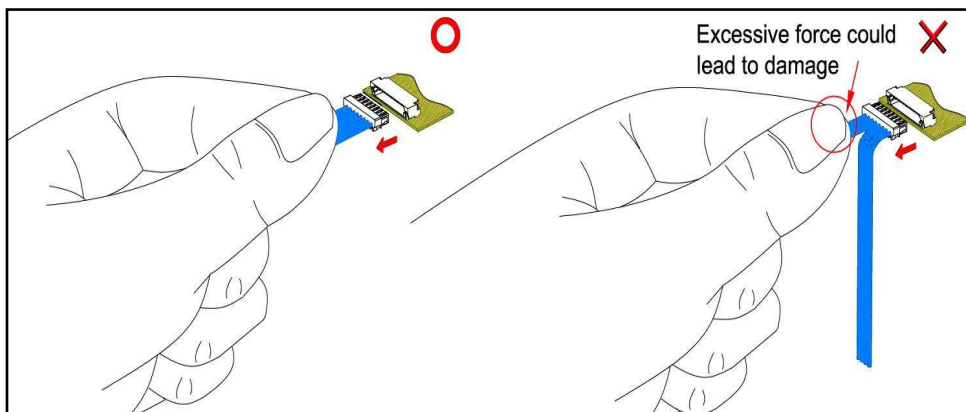

figure 5.1
5.1 Please hold all wires equally to prevent excessive force on certain wires. excessive force could lead to damage. (see figure 5.1)